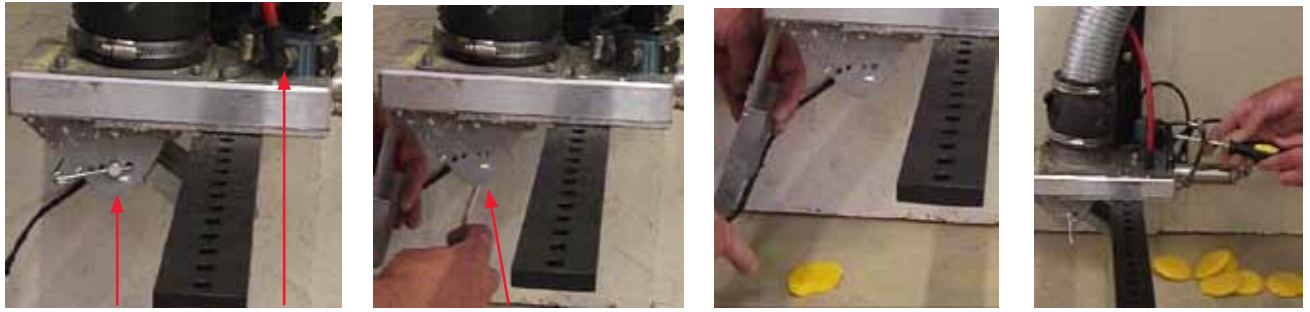

Figure 11: Removing a Marker Dispenser Jam
7. If the dispenser jams, stop the truck, turn off the air, and bleed any remaining air from the air line. Make a note of the position of the slide locking pin. Remove the lock pin that holds up the slide and drop the slide. You should be able to remove the cause of the jam from underneath. If not, you can remove the flex hose from the top, and clear it from there. Once cleared, raise the slide and replace the lock pin to its noted position (Fig.11). If no obstruction was found, and the dispenser continues to jam, it may need cleaning.